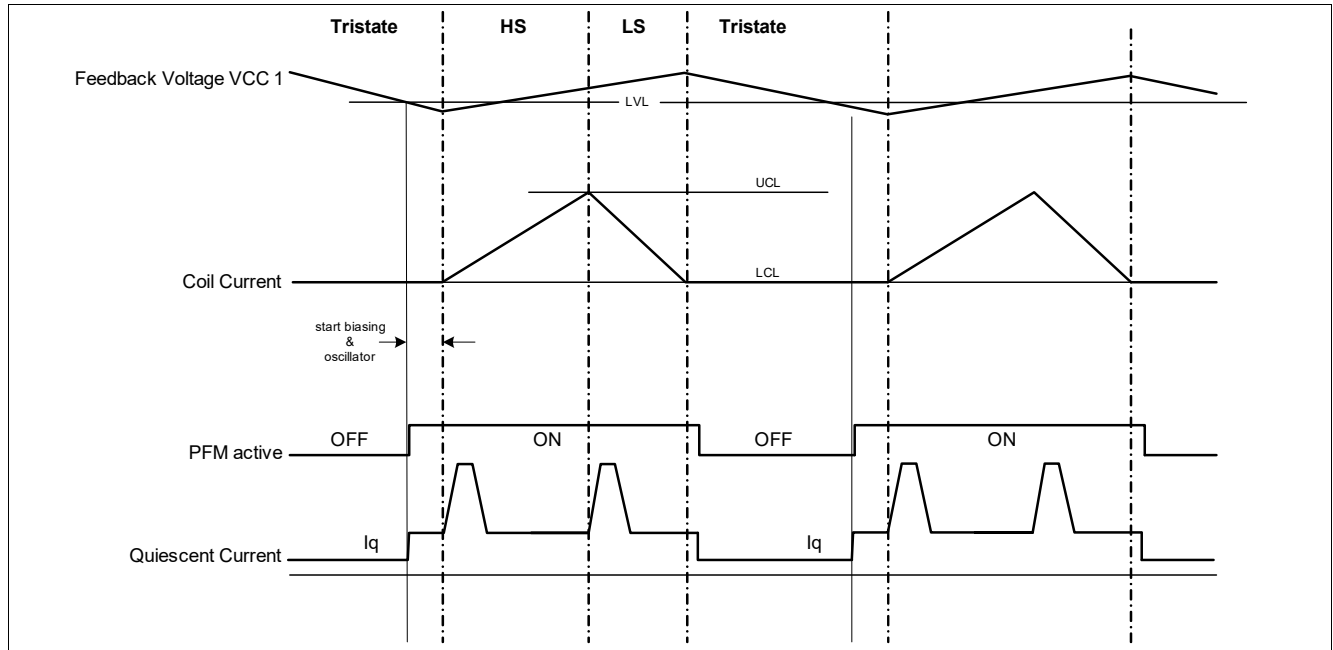

Figure 14 Typical PFM timing diagram
- PFM Mode (Pulse Frequency Modulation): This mode is activated automatically when the SBC Stop Mode is entered. The PFM Mode is an asynchronous mode. PFM Mode does not have a controller switching frequency. The switching frequency depends on conditions of the Buck regulator such as the following: input supply voltage, output voltage, output current and external components. A typical timing diagram is shown in Figure 14. The Buck converter in PFM Mode has a tolerance of $\pm 4\%$. The transition from PFM mode to PWM mode is described in Chapter 6.2.2.